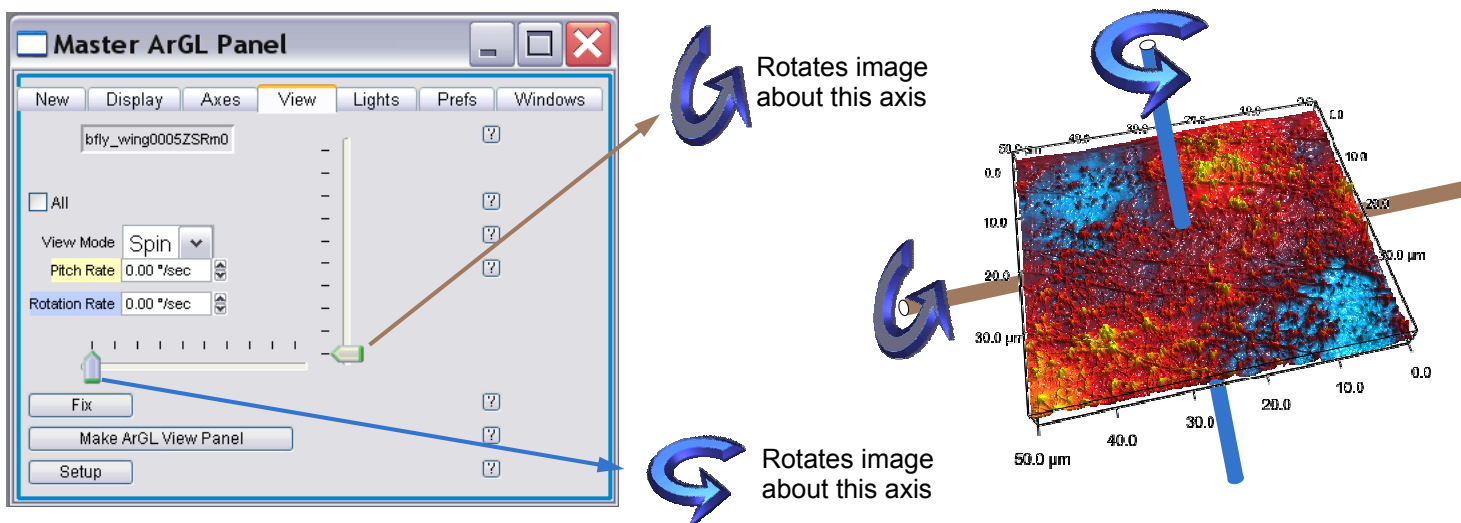

Figure 13.7: Setting automatic spin of ARgyle image: Lower slide bar spins about the image plane; slider bar sets the speed; Vertical bar spins
- ✓ Select Spin from the View Mode pull down menu in the View tab (Figure 13.7).